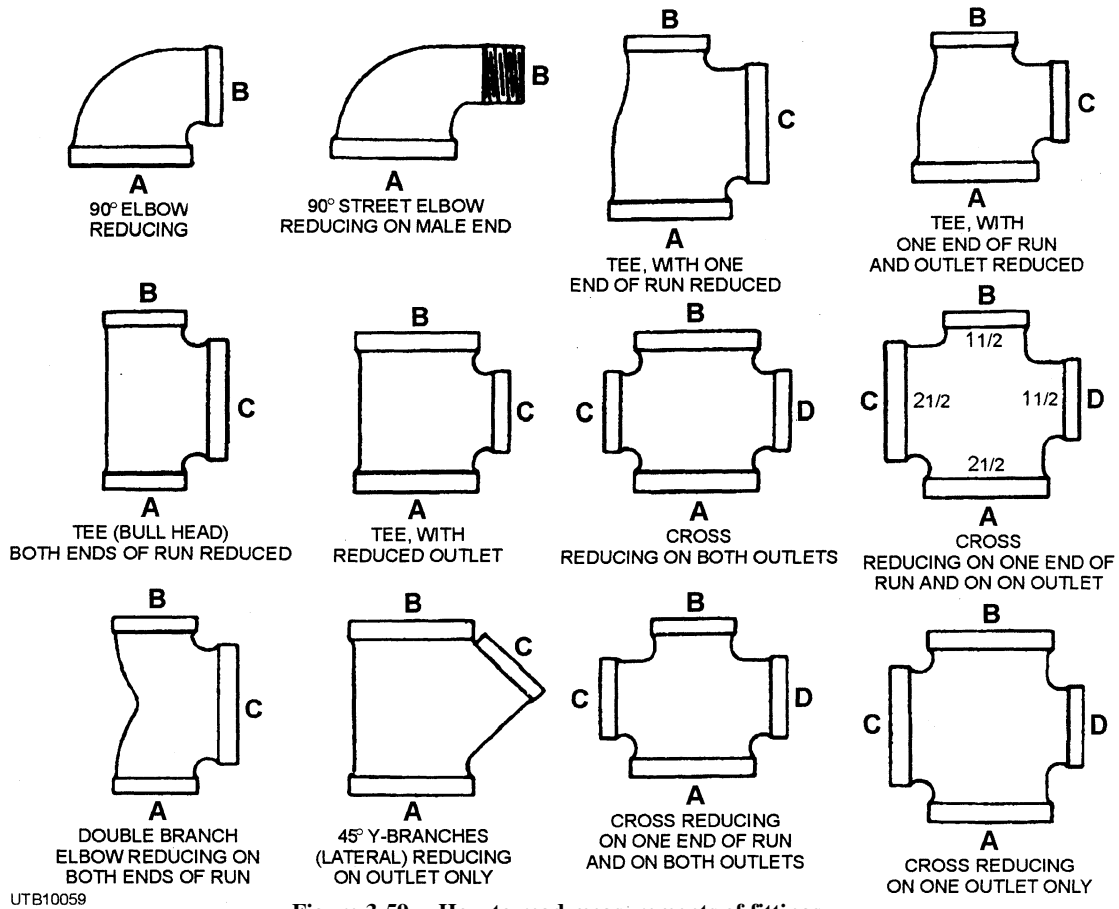

Figure 3-59.—How to read measurements of fittings.
**READING THE SIZE OF FITTINGS.**—To help you read the designations of fittings, you should know that each opening of the fitting is identified with a letter that indicates the sequence in reading the size of the fitting. As shown in figure 3-59, a cross with one end of run and one outlet reduced is designated as 2 1/2(A) × 1 1/2(B) × 2 1/2(C) × 1 1/2(D). This is done simply by naming the largest opening first and then naming the other openings in the order indicated.
order. Tees, 45-degree Y-branches, and double-branch elbows are identified by designating the size of the largest opening on the run first, the opposite opening of the run second, and the size of the outlet last; for example, a 3 × 2 × 1 1/2 size tee is one that has openings 3(A) × 2(B) × 1 1/2(C). In designating the outlets of side outlet reducing fittings, the size of the side outlet is named last. Refer to figure 3-59. The rules for reading screwed fittings also apply to reading other reduced fittings.